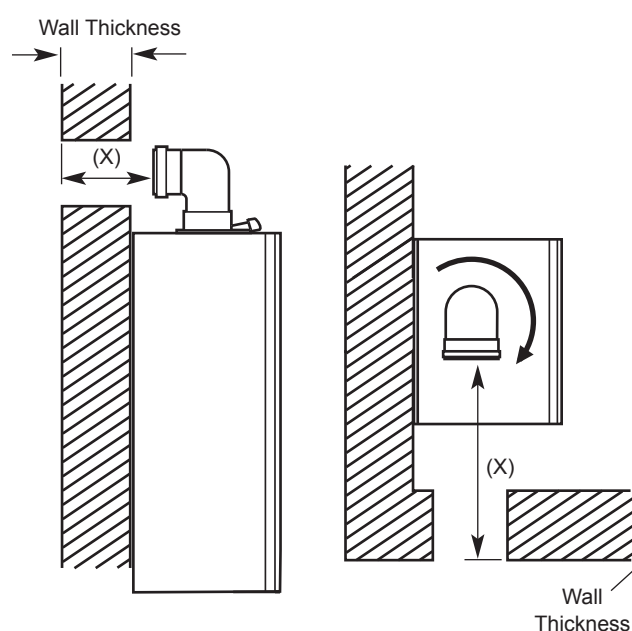

Fig. 25
3. Locate the flue elbow on the adaptor at the top of the boiler. Set the elbow to the required orientation (Fig. 25).
4. Measure the distance from the outside wall face to the elbow. This dimension will be known as 'X' (Fig. 25).
5. If the distance from the flue elbow to the outside face of the wall ('X' in Fig. 25) is less than 250mm the Connection Assembly can be discarded and the Terminal Assembly fitted directly into the elbow.
6. In instances where the dimension 'X' (Fig. 25) is between 250mm and 315mm it will be necessary to shorten the Terminal Assembly by careful cutting to accommodate walls of these thicknesses.